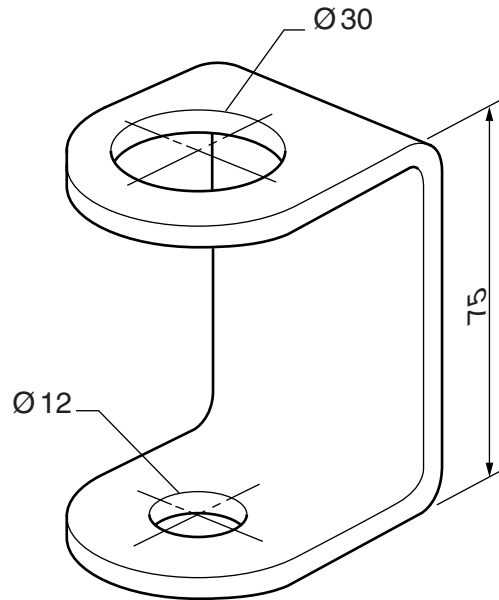

Fig. 1
- 1 Fig. 1 shows a soap dispenser bracket.
- (a) State a suitable material for a soap dispenser bracket of the type shown in Fig. 1 and give **two** reasons for your choice. [3]